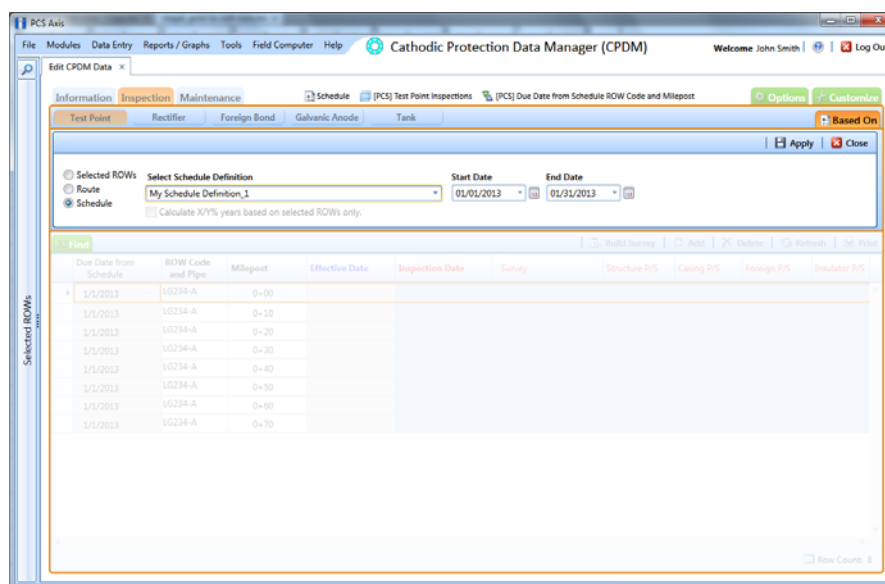

Figure 6-38. Based On Schedule
- 5 Click the **Based On** tab  to open the based on panel. Then select the **Schedule** option (Figure 6-38).